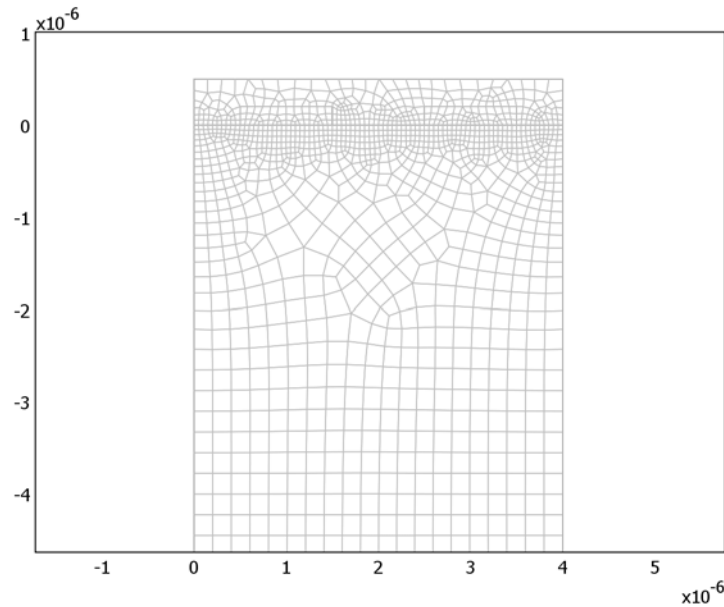

Figure 3-44: The meshed geometry.
- 5 Click **Remesh**, then click **OK**. When done, a zoom-in on the upper part of the geometry should look like Figure 3-44.